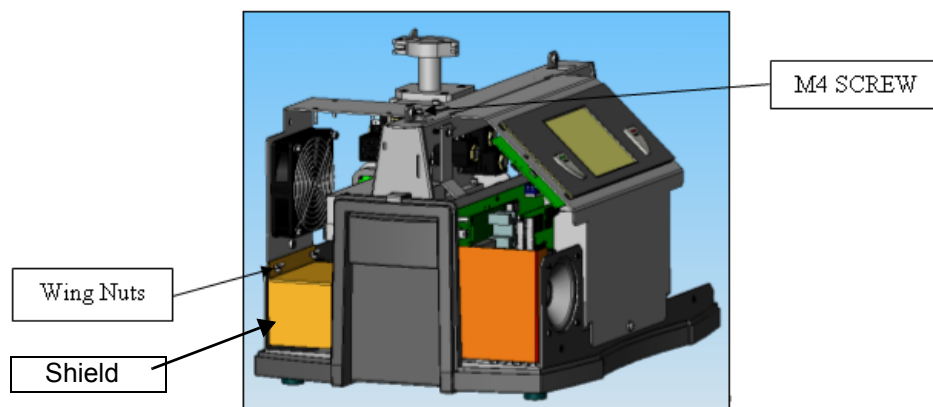

Figure 2: Plastic Shield
5. Remove the two wing nuts holding the plastic shield around the leak detector power input area and remove the shield ("Figure 2: Plastic Shield").
6. Remove the fan assembly by loosening the M4 socket head cap screw ("Figure 2: Plastic Shield").
17. Reinstall the (“Figure 2: Plastic Shield”):